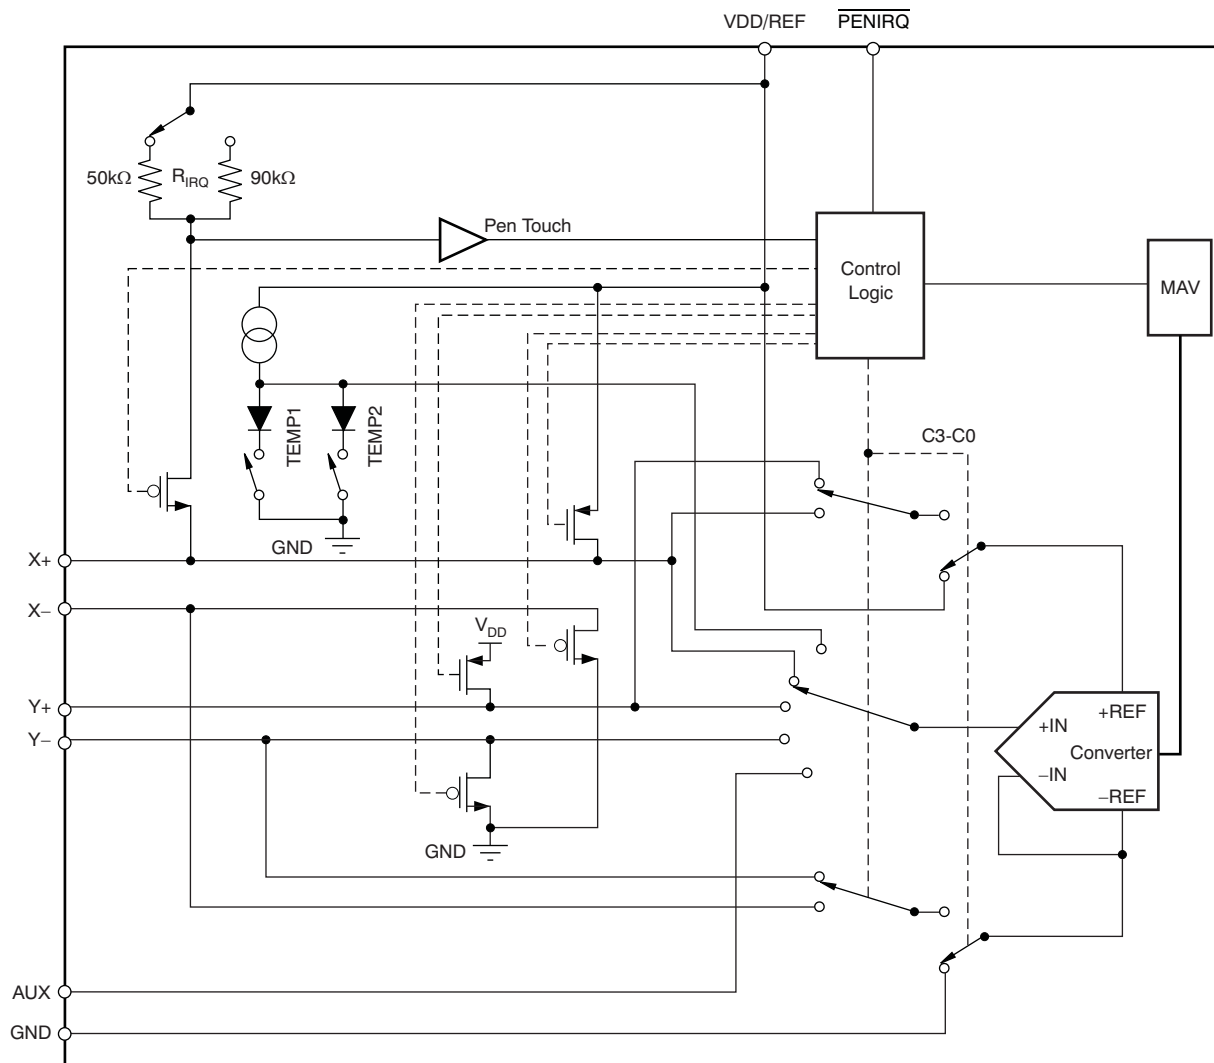

Figure 23. Analog Input Section (Simplified Diagram)
Figure 23 shows the analog inputs of the TSC2017. The analog inputs (X, Y, and Z touch panel coordinates, chip temperature and auxiliary inputs) are provided via a multiplexer to the Successive Approximation Register (SAR) A/D converter. The A/D architecture is based on capacitive redistribution architecture, which inherently includes a sample-and-hold function.
- (1) Reference voltage at converter: +REF – (–REF). See Figure 23.
(2) Input voltage at converter, after multiplexer: +IN – (–IN). See Figure 23.